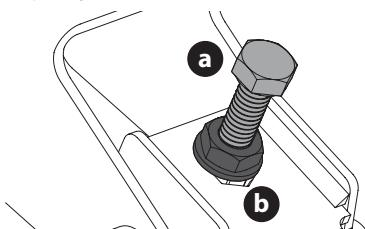

Figure 39
- Locate the adjustment bolts (a) on the left and right side of the deck (Figure 39).
- Loosen, but do not remove, the jam nuts (b) on the adjustment bolt. Adjust either the right or left adjustment bolt up or down as necessary until the side-to-side heights are equal (Figure 39).
- When proper adjustment is achieved, re-tighten the jam nuts (b). Tighten to 200 in-lbs (23 N-m) (Figure 39).